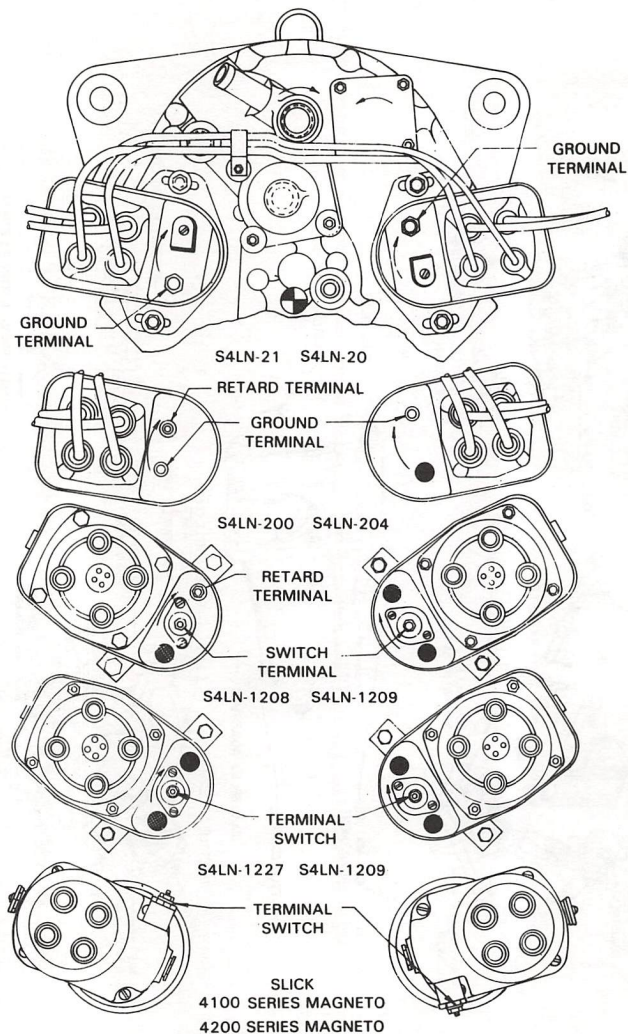

Figure 7-2. Magneto Connections
** SEE FIG. 7-2 FOR MAGNETO CONNECTIONS
* SEE FIG. 7-2 FOR MAGNETO CONNECTIONS